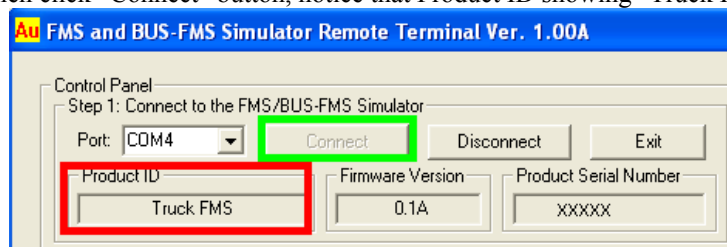

Figure B-1
2. Launch Au FMS Simulator Remote Terminal program, select the Serial Communication Port that was used to connect FMS simulator, e.g. COM4, then click "Connect" button, notice that Product ID showing "Truck FMS" (Figure B-1)
3. Click Au icon on the top left corner of Au FMS Simulator Remote Terminal, click "About FMS Simulator Remote Terminal..." as shown in Figure B-1.